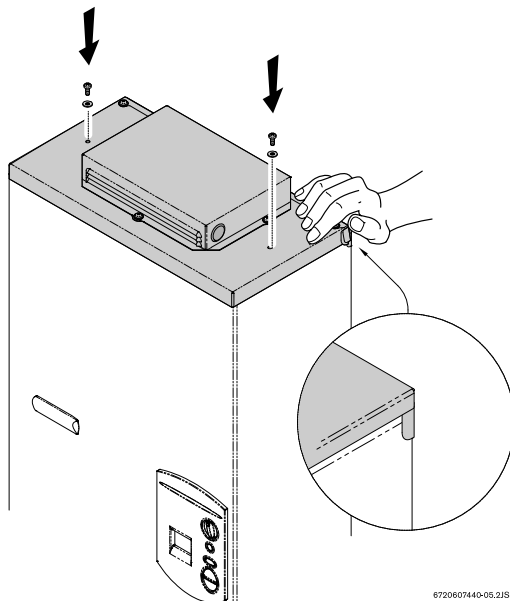

Fig. 8
- ▶ Fix the top vent cap on the top of the heater, as shown in Fig. 8). Make sure the vent cap is well fitted by taking special care that the front cover stays inside the extended special corners of the vent cap, as shown in Fig. 8). The sides of the cover must be pressed with your hands to ensure it fits inside those corners. Secure it in place with its two screws.